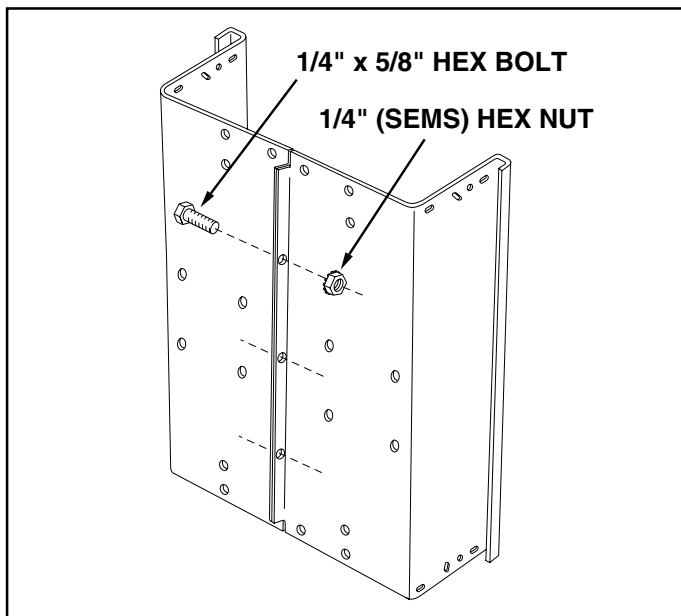
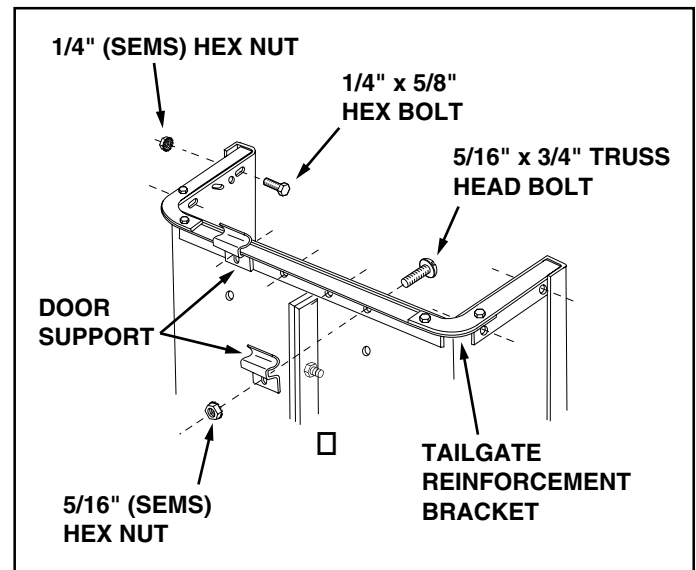

FIGURE 1
FIGURE 2
1. Place cart body halves upright on a smooth level surface such as a garage floor or a paved driveway. See figure 1.
2. Assemble cart body halves together using three 1/4" x 5/8" hex bolts and 1/4" (SEMS) hex nuts as shown in figure 1. **Do not tighten yet.**
3. Fit the tailgate reinforcement bracket over the end of the cart bed. Position the two door support brackets on the bottom of the reinforcement bracket as shown in figure 2. Fasten the reinforcement bracket and the door supports to the bottom of the cart using four 5/16" x 3/4" truss head bolts and 5/16" (SEMS) hex nuts. **Do not tighten yet.** See figure 2.
4. Fasten the tailgate reinforcement bracket to the sides of the cart body using four 1/4" x 5/8" hex bolts and 1/4" (SEMS) hex nuts as shown in figure 2. **Do not tighten yet.**
5. Pull the cart body halves together. **Tighten** the four truss head bolts in figure 2. **Tighten** the four hex bolts in figure 2. **Tighten** the three hex bolts in figure 1, keeping the bottom aligned and pulled together.